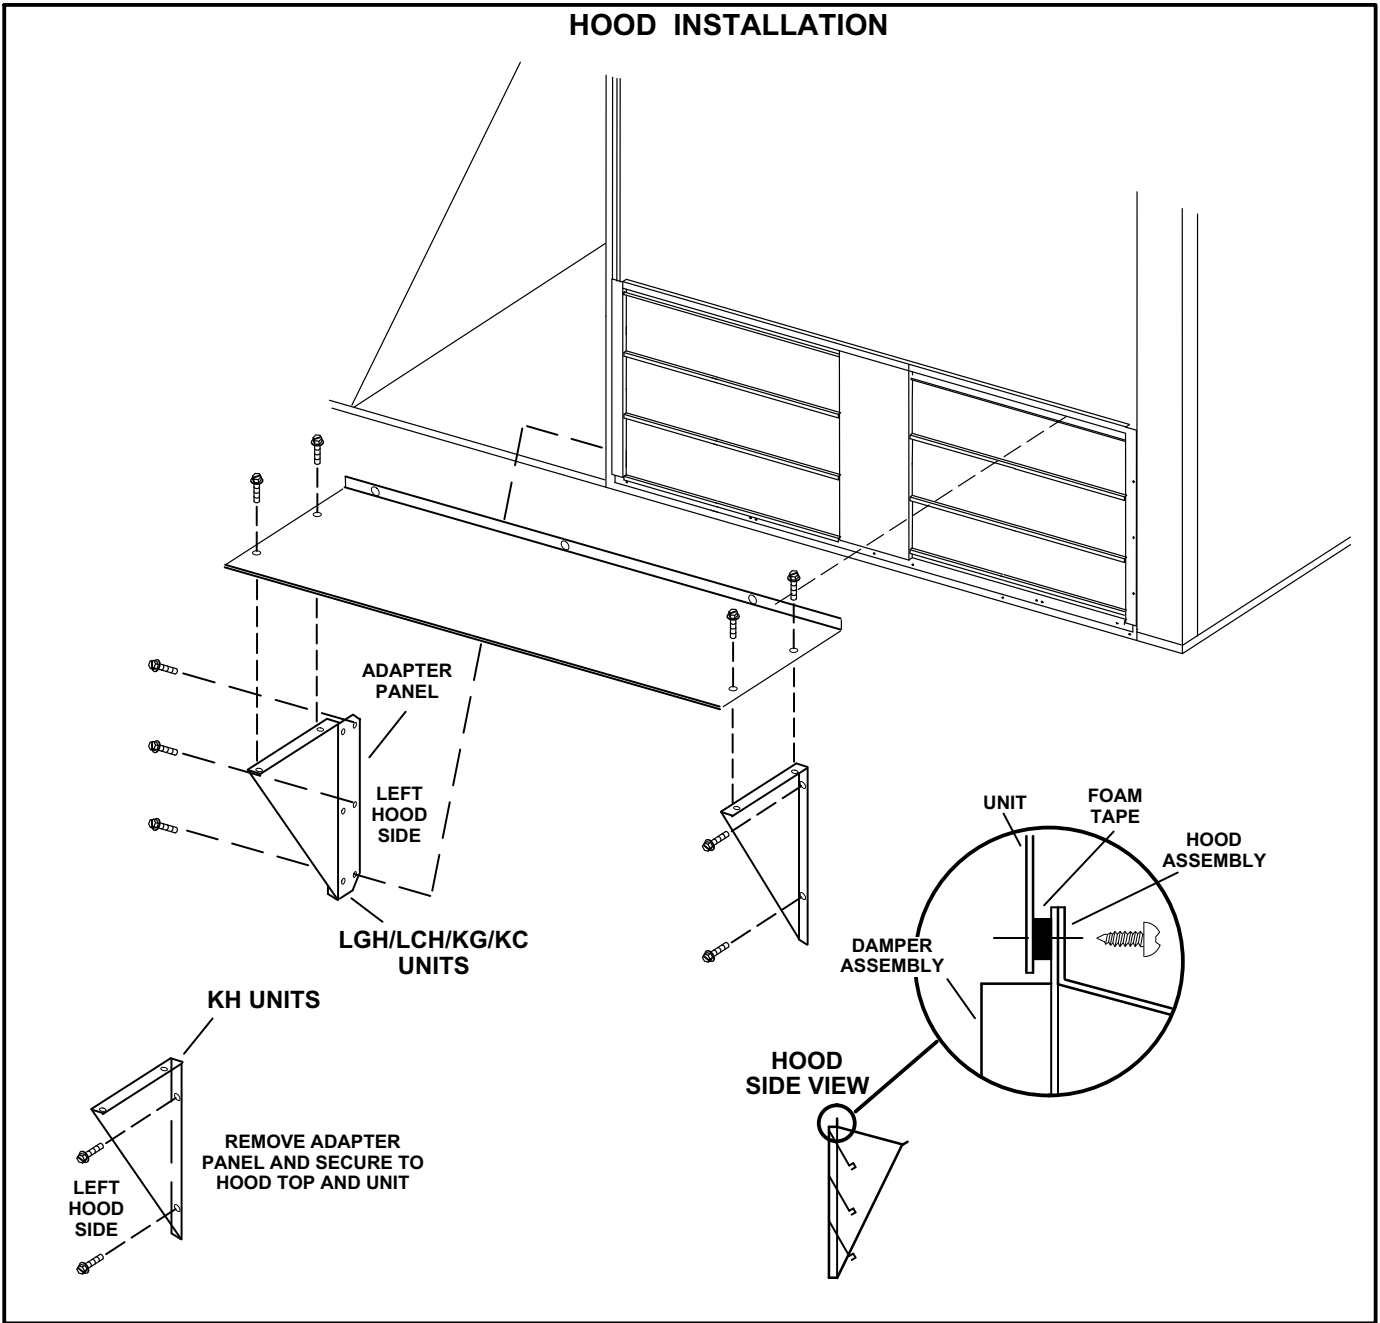

FIGURE 5
- 2- Secure hood sides to hood top as shown in figure 5.
- 4- Align top edges of hood and damper assembly and secure using screws provided. See figure 5.